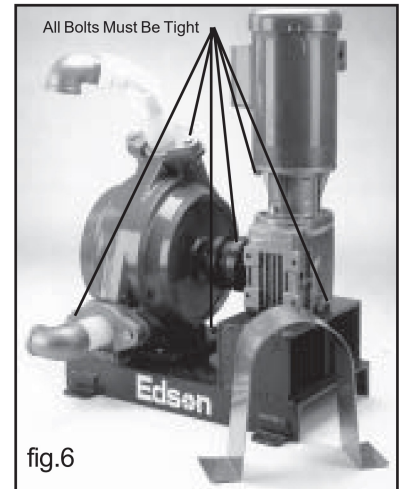

fig.6
- Check All Bolts - Make sure that all bolts on the pump are secure. fig.6